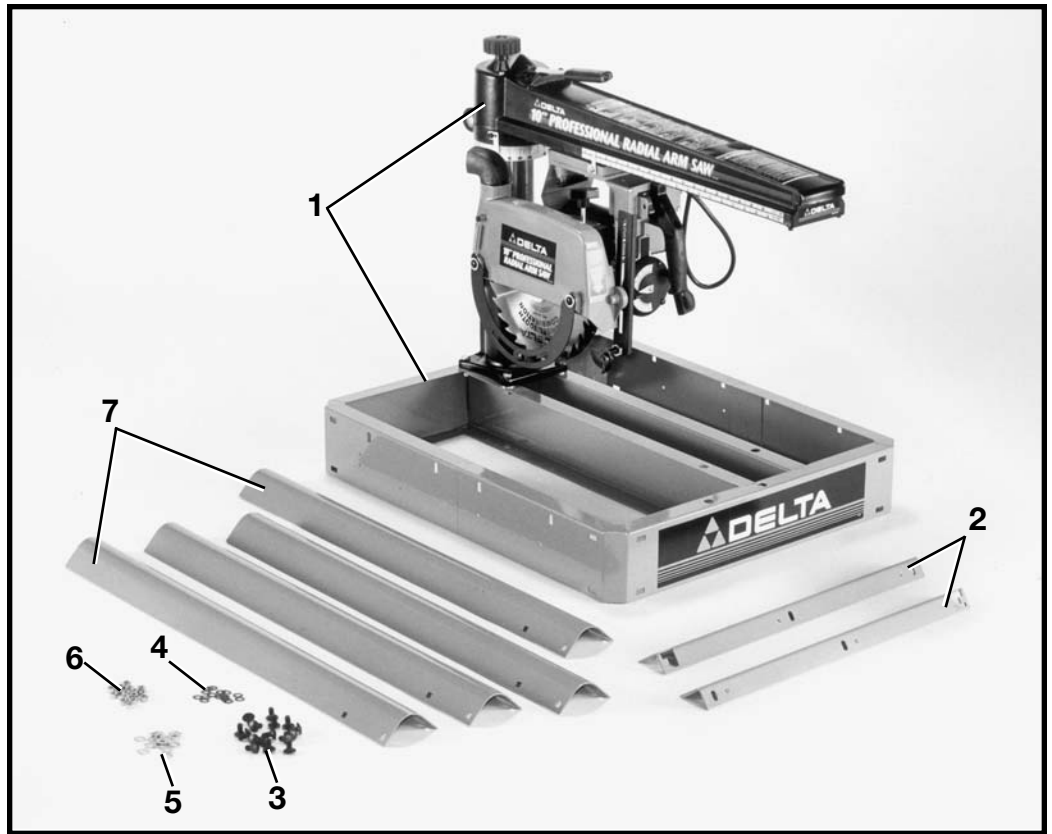
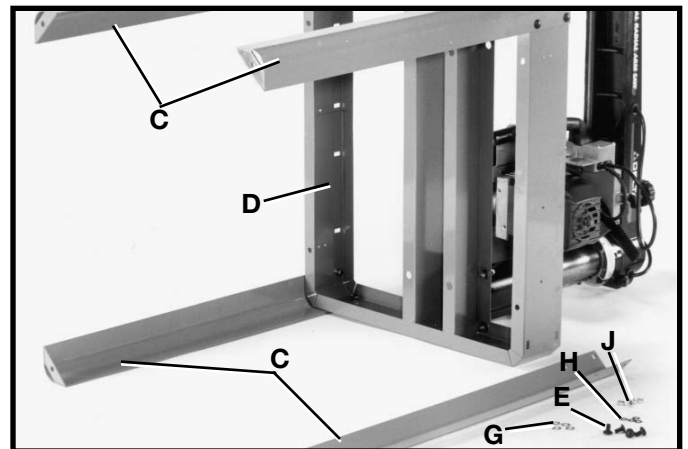

Fig. 4
Fig. 9
COMPONENTS OF THE 10" PROFESSIONAL RADIAL ARM SAW ILLUSTRATED IN FIGS. 4 AND 5
3. Place Radial Arm Saw on its back and assemble legs (C) Fig. 9 (three of which are shown assembled) to each corner of saw base (D) using sixteen 5/16-18 x 5/8" carriage head screws (E), flat washers (G), external tooth lockwashers (H), and hex nuts (J). Place flat washer on bolt. Insert bolt through holes then assemble lockwasher and nut. Hand tighten, hardware at this time but do not completely tighten. Also refer to hardware Fig. 4.